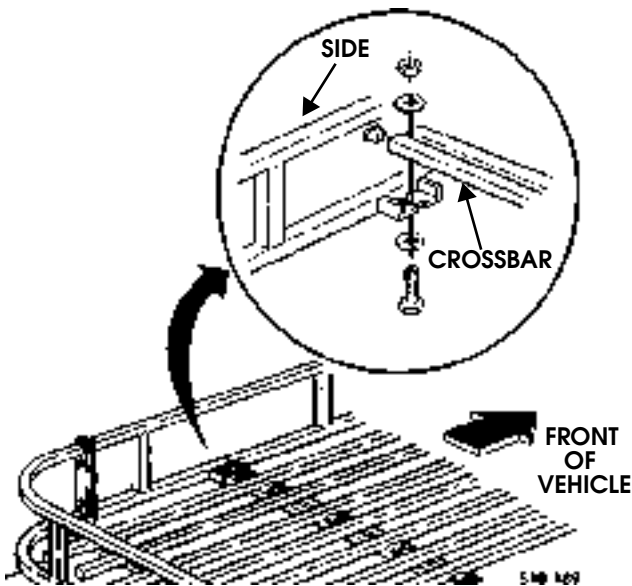

Figure 13-56: Roof Rack Crossbar
3. Remove four locknuts, washers, bolts, washers, and crossbar from sides (Figure 13-56).
1. Install crossbar on sides with four washers, bolts, washers, and locknuts. Tighten locknuts to 25 lb-ft (34 N•m) (Figure 13-56).